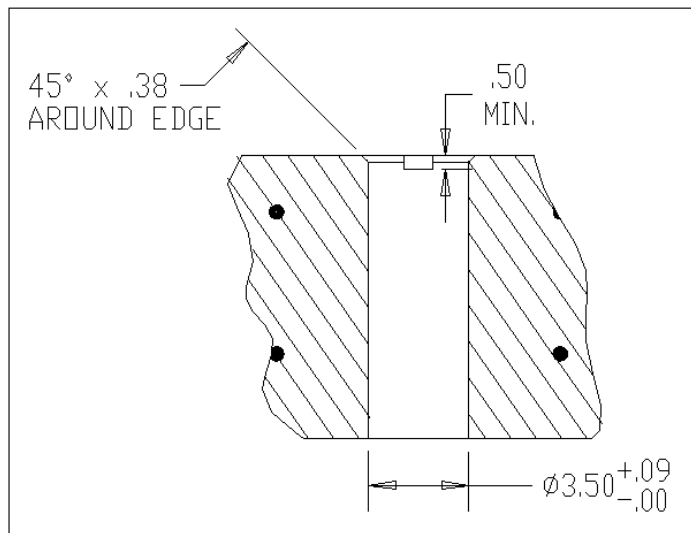

Fig 4: Core-Drill Dimensions and Depth.
- 2 Using a 3.50" diameter Core-Drill Bit drill a 3.50" diameter hole at the Base location. Make sure to keep the bit square to the deck, drill straight down, and remove plug, see Fig. 4.